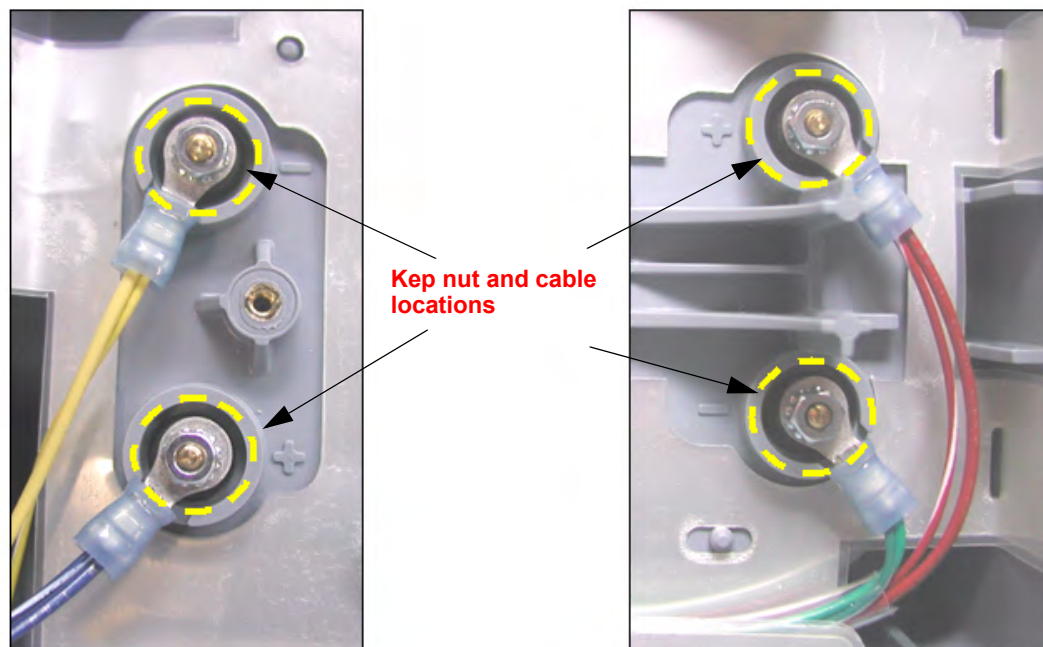

Figure 8.110—Power PCB cable Kep nut and cable locations
Refer to Figure 8.110 on p. 334 and Figure 8.99 on p. 305.
2. Connect terminals P43 and P44 at Battery Well 1, and P45 and P46 at Battery Well 2 and replace the four Kep nuts (201508-000) (torque to 4.0 in-lb using 1/4" socket and drive adapter). See Figure 8.110 on p. 334.